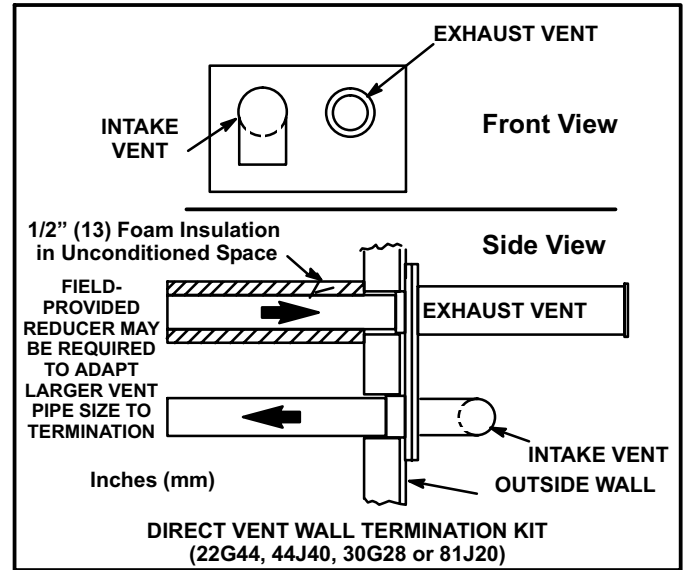

**FIGURE 25**
5. On field supplied terminations for side wall exits, exhaust piping should extend a maximum of 12 inches (305mm) beyond the outside wall unless supported. Intake piping should be as short as possible. See figure 25.